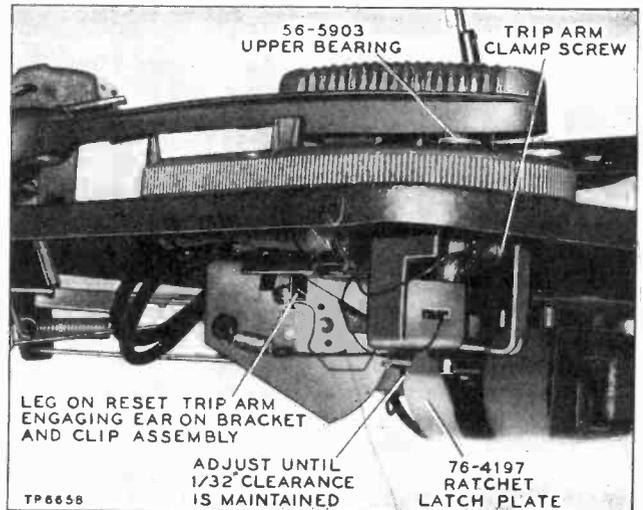

Figure 35. Trip-Switch Adjustment
With the tone-arm on the rest post, the mercury switch attached to the bracket-and-clip assembly, Part No. 76-4195, should be in a horizontal or ON position, as shown in figure 8. To adjust, loosen the reset-trip-arm clamp screw (figure 35), and while holding the tone arm on the rest post, move the trip arm until the leg on the reset trip arm engages the bracket-and-clip ear, and at the same time, the long ear of the bracket and clip is approximately  $\frac{1}{32}$ " above the cut-out notch on the ratchet-plate assembly, Part No. 76-4197, as shown in figure 35.
b. Remove "E" washer, Part No. 1W60981FE7, from bearing shaft mounted on tone-arm stanchion (figure 35).